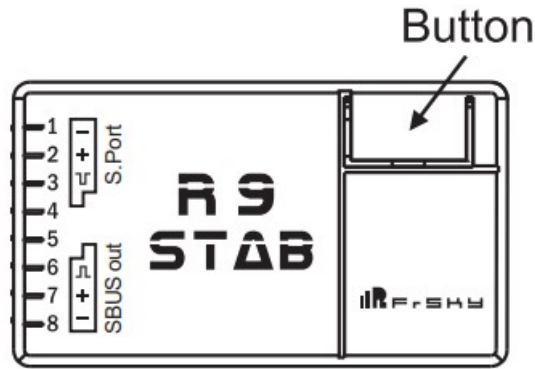

Figure 73: R9 Stab OTA
- ii. On the R9 Stab OTA, hold down the receiver button while powering up the R9 Stab OTA. See figure 73.